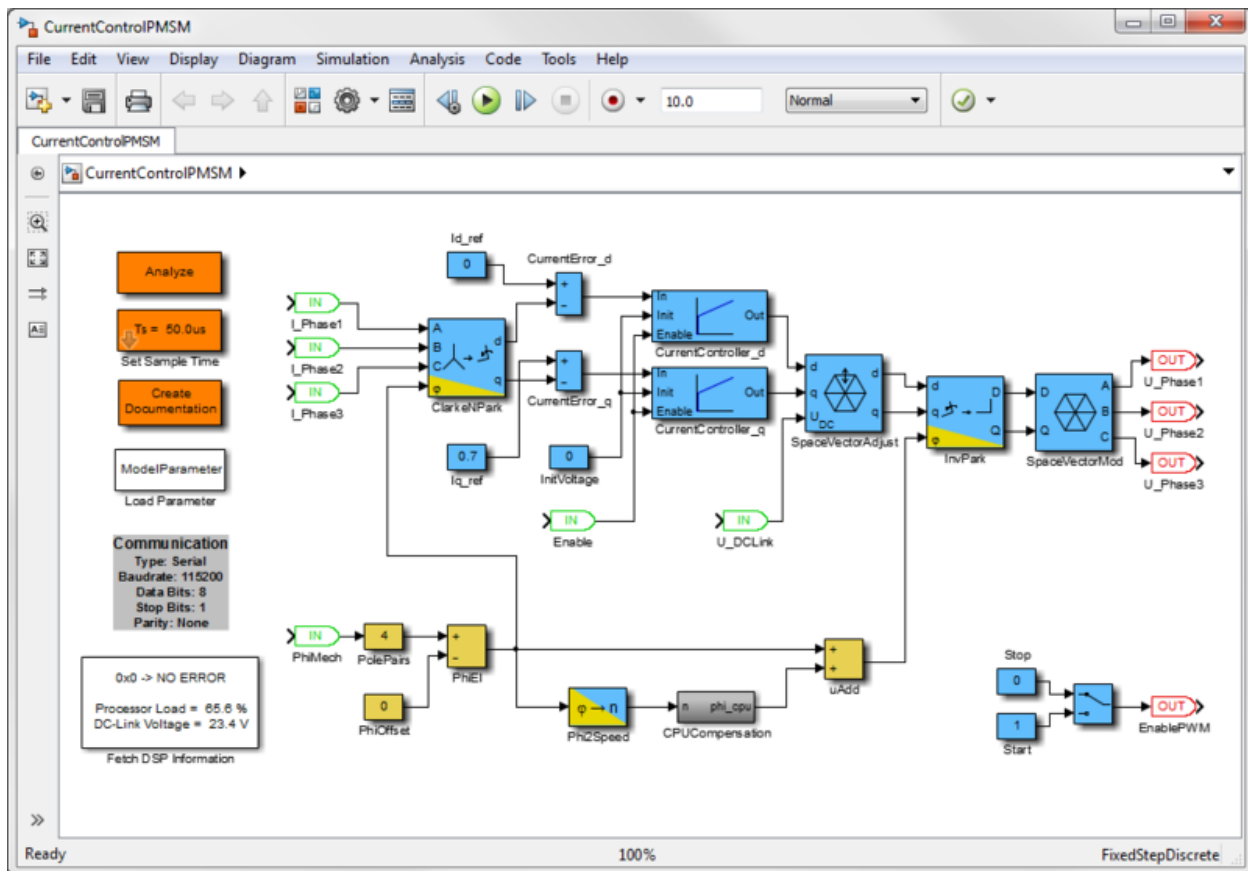

Figure 24: Design of a permanent-magnet synchronous motor (PMSM) block in Matlab Simulink. A series of such blocks can make up a control structure.
- MATLAB Simscape Electrical helps develop control systems and test system-level performance. MATLAB Simulink allows computations and validation for motor drives, power converters and Battery Management Systems (BMS). See Figure 24 for an example.